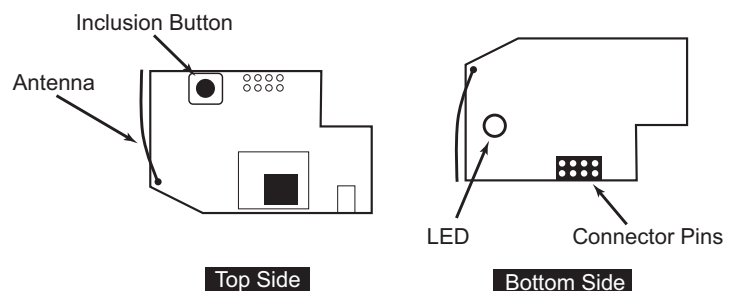

Figure 2
- Include the Smoke Alarm into your existing Z-Wave based Smart Home Network by pressing the Inclusion button once (see Figure 2).
2. Pressing the button 'Inclusion Button' for one second includes the device with Security. (see Fig 2) The Green LED will flash.